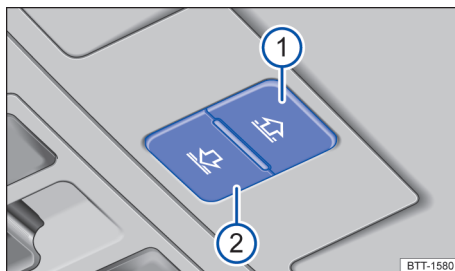

Fig. 76 In the roof: button for controlling the sun blind
The buttons → Fig. 76 ① and ② have two positions. In the first position, the sun blind can be completely or partially opened or closed.
- Within approximately 5 seconds of the roll-back function being triggered, press and hold the button → Fig. 76  until the sun blind has closed completely.